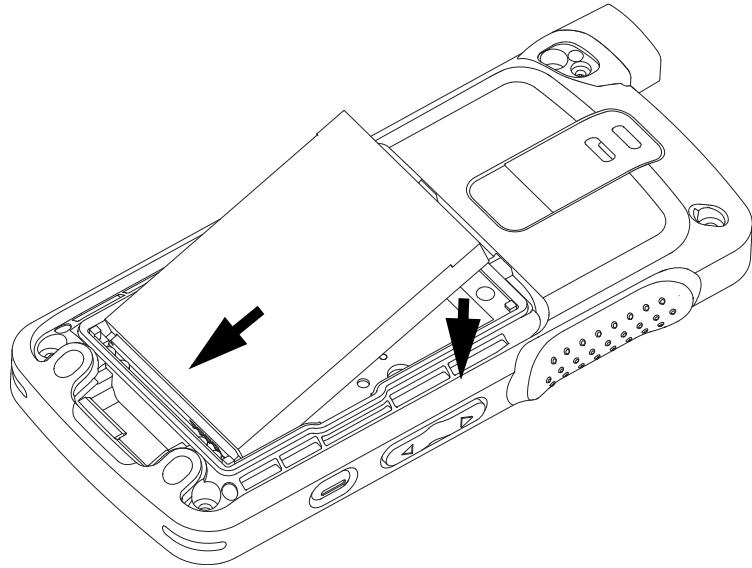

Figure 5-30. Battery reassembly
4. Insert the battery into the battery compartment on the back housing as shown in Figure 5-30.